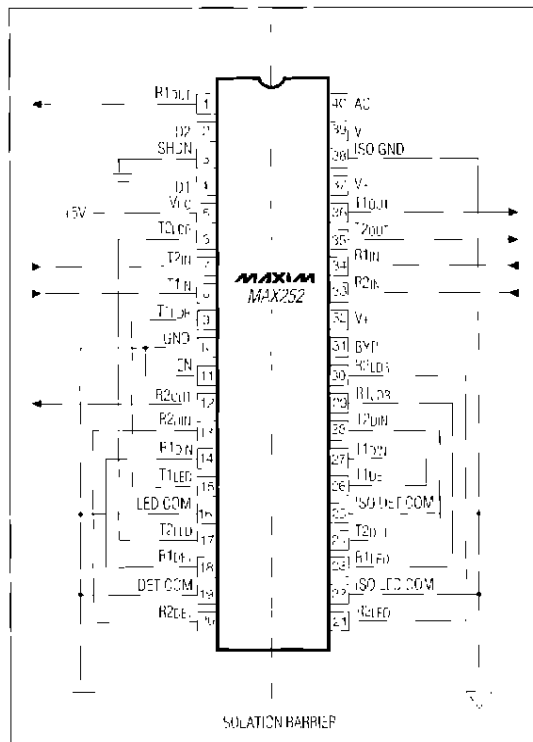

Figure 1. Typical interconnections
Figure 1 shows the typical interconnection for a complete 9600 bits/sec transceiver. Important layout considerations include:
- † For maximum isolation, the isolation line through the center of Figure 1 should not be breached; connections from each side should be kept separate.